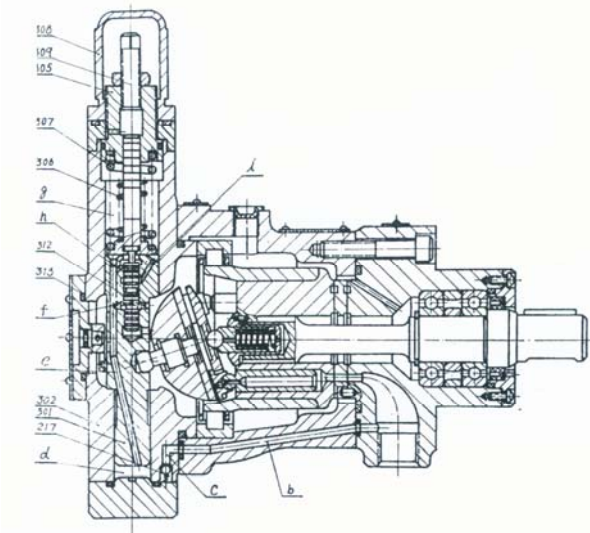

Figure 3 YCY14-1B (Pressure Compensation Variable Displacement) Axial Pistion Pump MCY14-1B (Fixed Displacement)
4.3. YCY14-1B Type (Pressure Compensation Variable displacement (Figure 3)